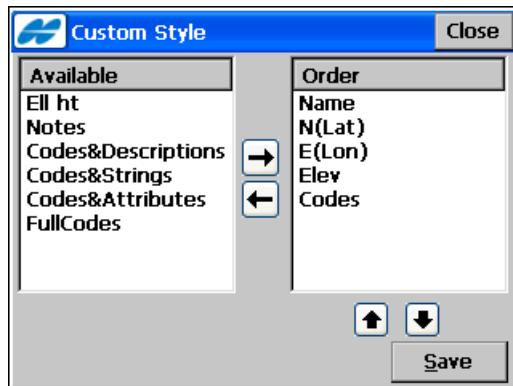

Figure 4-17. Custom Style
- **Edit (Format)** – edits an existing file format. The ***Custom Style*** screen displays (Figure 4-17 on page 4-16).
- **Add (Format)** – adds a new file format. The ***Custom Style*** screen (Figure 4-17 on page 4-16) displays.
On the *Custom Style* screen (Figure 4-17), using the arrows, move items in the *Available* column to the *Order* column and arrange in the preferred order with the *Left* and *Right* arrows under the *Order* column.